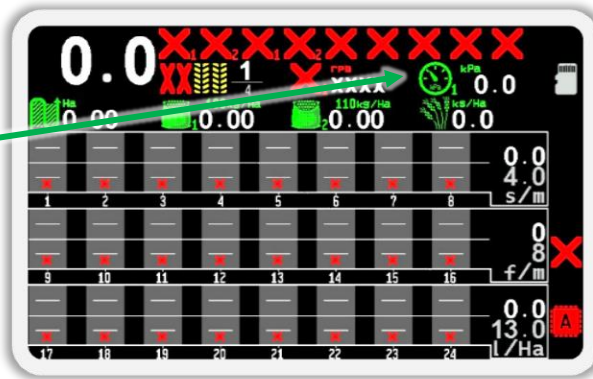

Figure 113
5. Make sure that the address of the sensor has changed to the correct one. To do this, physically disconnect and connect the sensor to the connector of the communication harness. After that, return to the main screen (see Figure 113). To do this, first exit the Service menu, and then close the main screen menu (use the  “Back” button).